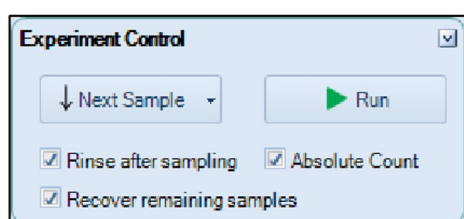

Figure 10: Experiment Control with the three option picked
- 4 In NovoExpress, the "Experiment Control" window enables the initiation of the analysis (Fig. 10).